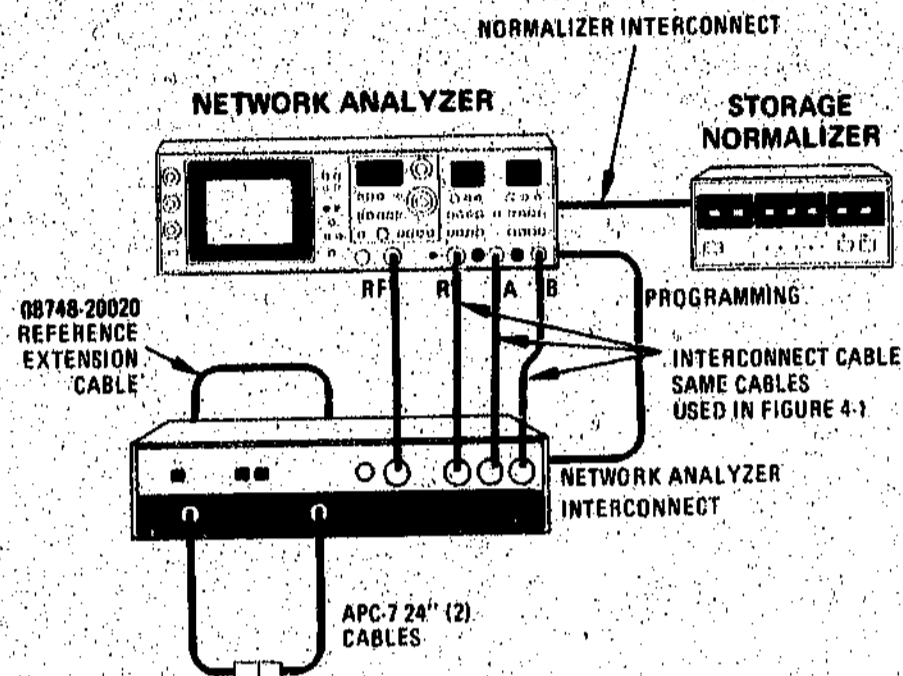

Figure 4-2. Frequency Response Transmission Test Setup
- f. Disconnect the 11850A POWER SPLITTER and connect the cables to the 8748A as shown in Figure 4-2 (Do not change or disconnect cables attached to 8754A). Install 11857A cables in series between PORTS 1 and 2.